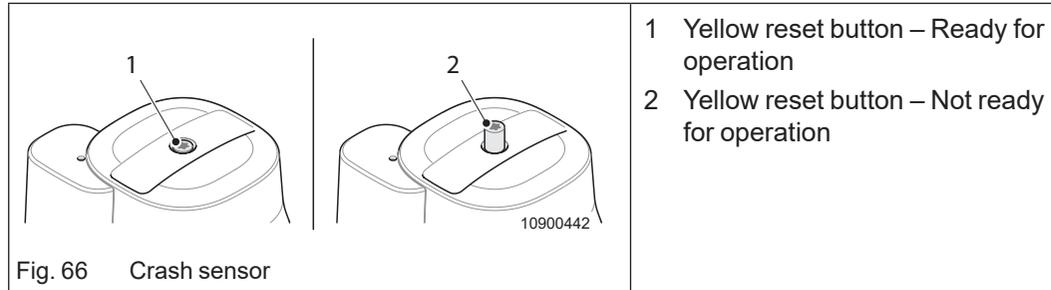

Fig. 66 Crash sensor
- ➔ Firmly push in the yellow reset button (Fig. 66/2), slightly turn in clockwise direction and hold it for approx. 10 seconds.
- ➔ Make sure that the reset button remains (Fig. 66/1) in the “Ready for operation” position.